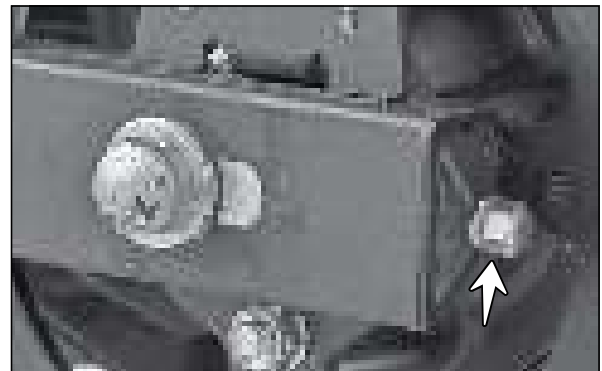

Fig. 6.81
- Loosen the chain adjusting screw from chain adjuster complete LH and RH. (Fig. 6.81)